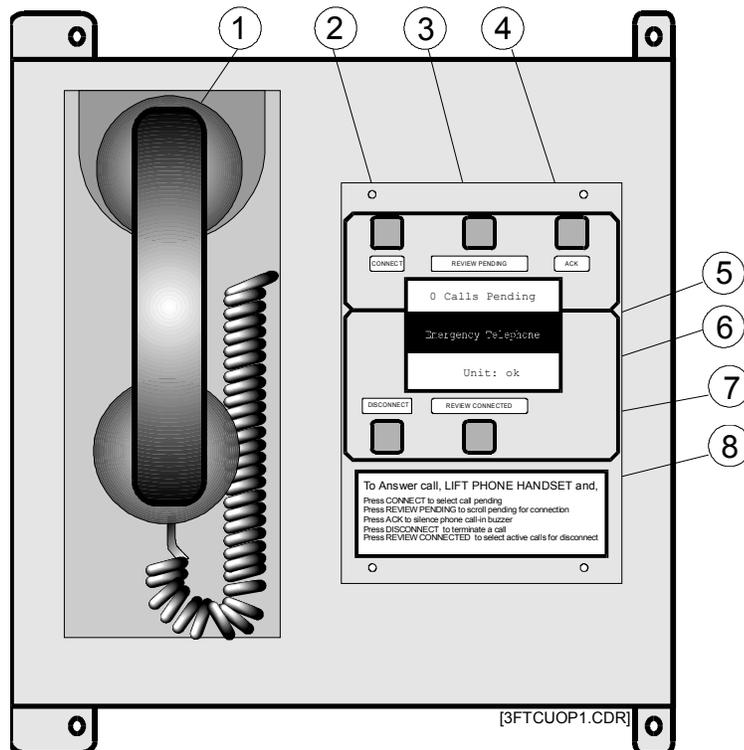

Figure 4-1: 3-FTCU controls and indicators
**Functional description of 3-FTCU controls and indicators (see Figure 4-1)**